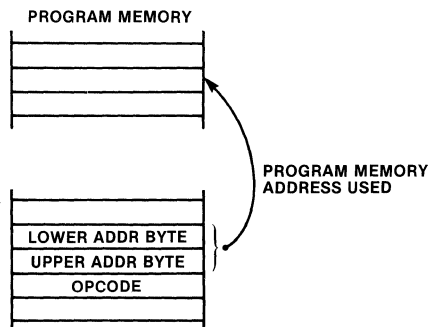

Figure 4-6. Direct Addressing
Direct addressing is used only by Conditional Jump (JP) and Call (CALL) instruction to specify the destination where program control is to be transferred (Figure 4-6).